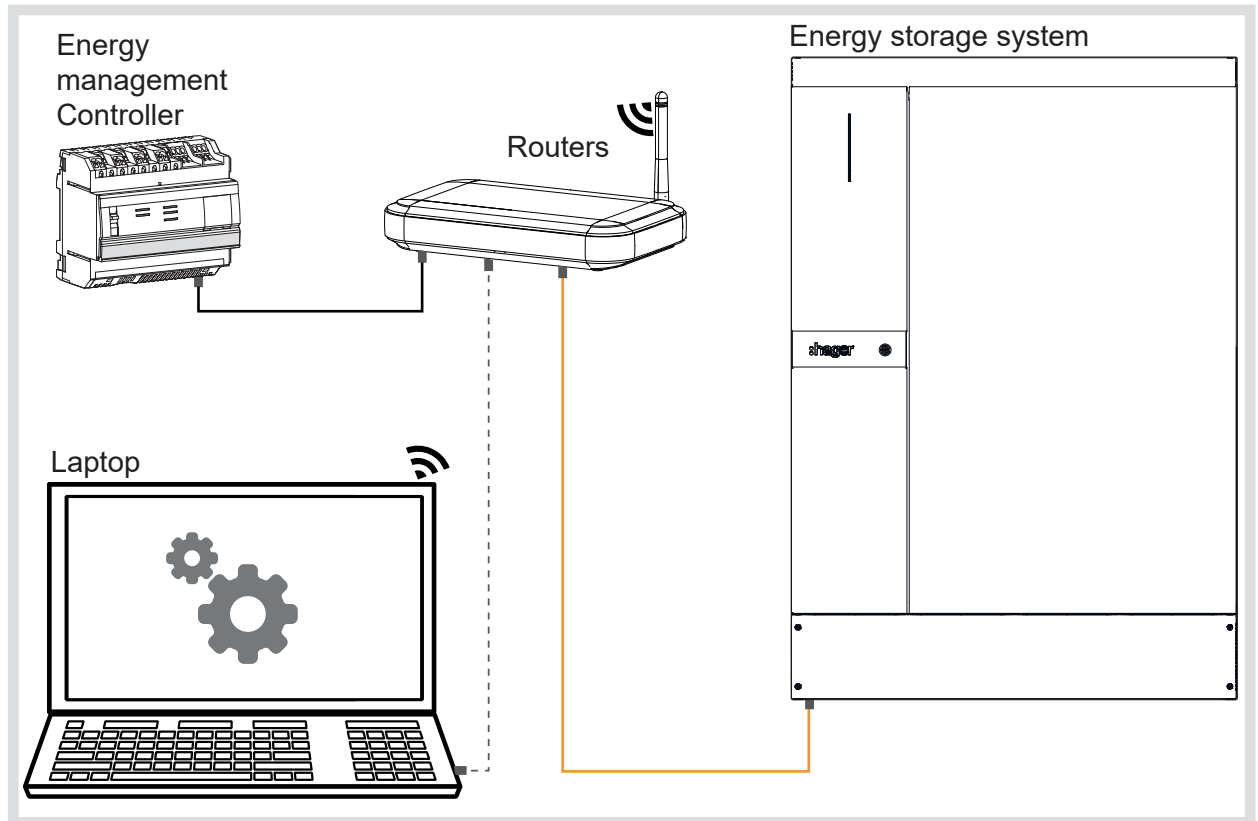

Figure 31: Energy storage system in the home network with Hager *flow*
- Connect the RJ45 jack of the RJ45 patch module in the main connection area of the energy storage system with the customer's router / network through network cables, at least Cat. 6 (recommendation in the Hager catalogue: G8311) (Figure 31). DHCP must be activated on the router.